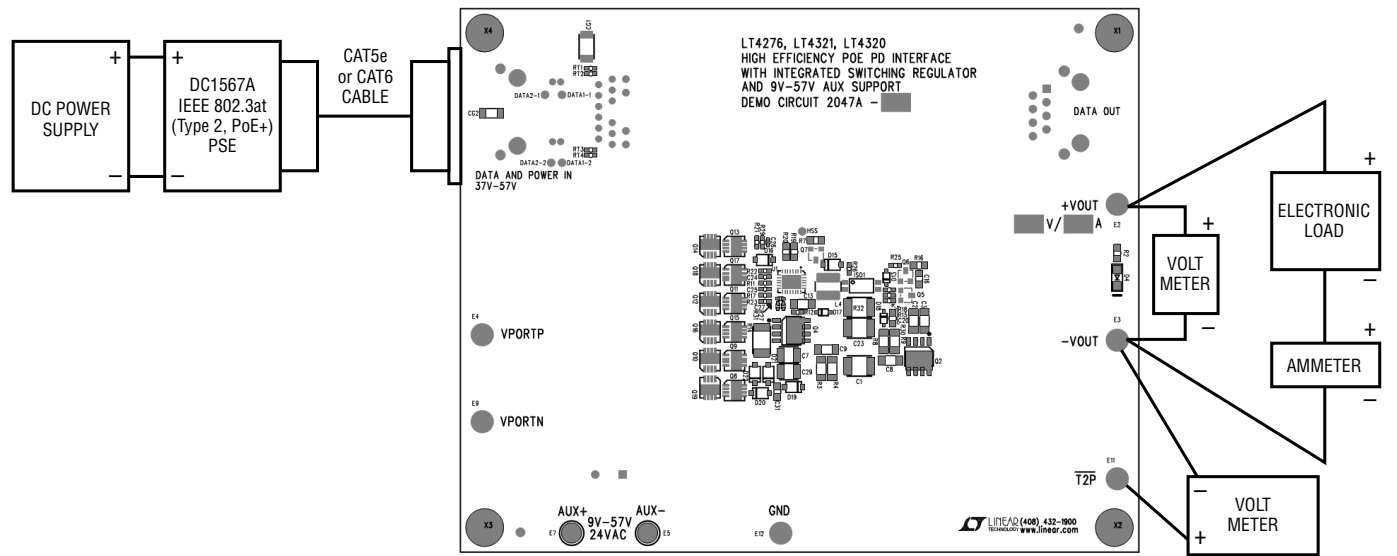

Figure 7. Setup Diagram for PoE Input
2. Place and connect test equipment (voltmeter, ammeter, oscilloscope, and electronic load) as shown in Figure 7.
8. Verify $\overline{T2P}$ response with a voltmeter as shown in Figure 7. The $\overline{T2P}$ response to the type of PSE connected to the DC2047A-A is provided in Table 1.